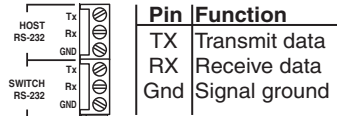

Figure 2-10 — RS-232 connector
- ④ **Host RS-232 port** — If desired, connect a host computer or control system to this 3-pole, 3.5 mm, RS-232 connector (figure 2-10).
- ⑤ **Switch RS-232 port** — If desired, connect a cable between this 3-pole, 3.5 mm, RS-232 connector and a matrix switcher (figure 2-10).
- ⑥ **MAAP Opening (MKP 3000 MAAP)** — The MKP 3000 MAAP has a space that allows the installation of up to four optional mini architectural adapter plates (MAAPs). This space is typically filled by an optional four space MKP 10 MAAP keypad, but a variety of other adapter plates are also available.